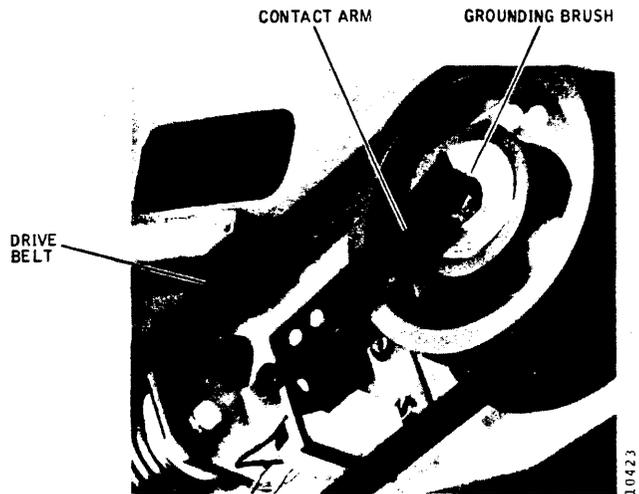

Figure 2-5. Spindle Drive Component Checks
3. Check the resistance between the spindle contact arm (Figure 2-5) and the spindle. Resistance must be less than one-half ohm. If the resistance is greater than one-half ohm, the brush must be serviced and readjusted. Refer to Section 3.
1. Inspect the spindle drive belt (Figure 2-5) for fraying or other damage. If damage or belt stretching is apparent, replace the drive belt. (Refer to Section 3.)